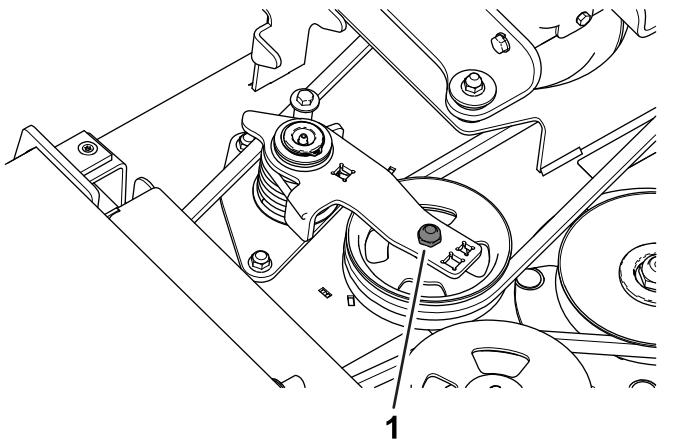

Figure 27
- Using a torque wrench or similar tool, move the idler pulley (Figure 27) away from the drive belt to release the belt tension and allow the belt to be slipped off the gearbox pulley.